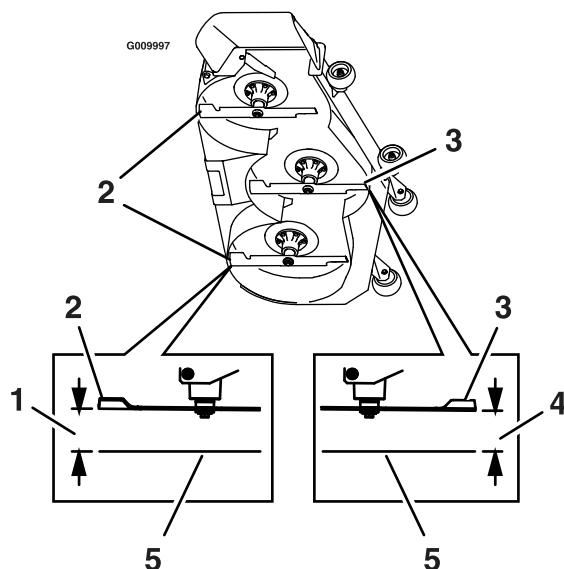

Figure 75
8. Measure from the level surface to the front tip of the center blade (Figure 75).